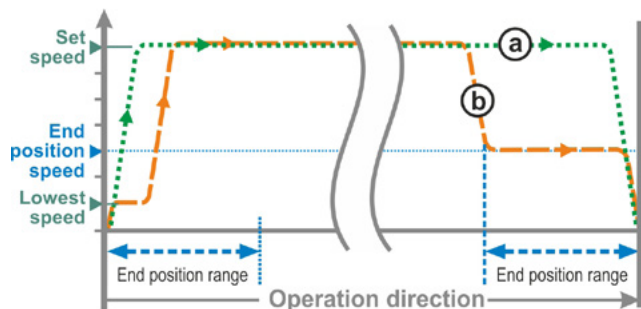

Fig. 3: End position speed 'Quick start/stop'
- For **travel dependent** cut-off mode, the speed will be reduced shortly before reaching the end position so that the actuator comes to a standstill; refer to fig. 3, curve a.